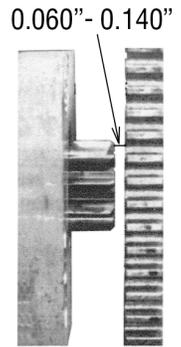

Figure 1
- 2) Check Pinion Clearance.** There should be 0.060" - 0.140" clearance from the face of ring gear to the front face of the starter pinion. Check in at least three locations on the ring gear (see Figure 1). If not in spec, verify that the ring gear is properly mounted and does not have excessive runout. The included shims can be installed between the starter mounting block and the starter's center support to increase this distance.